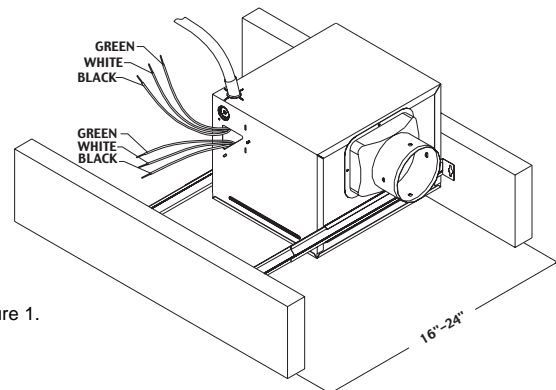

Figure 1.
As an added convenience for installation you do not have to remove the Fan's Blower assembly in order to install and wire this unit – You can gain access to the fan's wiring via the external wire compartment shown in fig. 1. If you choose to wire from inside the fan housing you will have to remove the fan's blower assembly and internal wiring compartment. The Blower assembly is secured in
2. See Figure 1 - From where you have access to inside the fan's junction box, connect the white wire from the house to the white wire in the fan's Junction box – Then connect the black wire from inside the fan's Junction box to the black wire from the switch. – Connect the ground to the green ground wire inside the fan's junction box. Use approved electrical wire nuts.